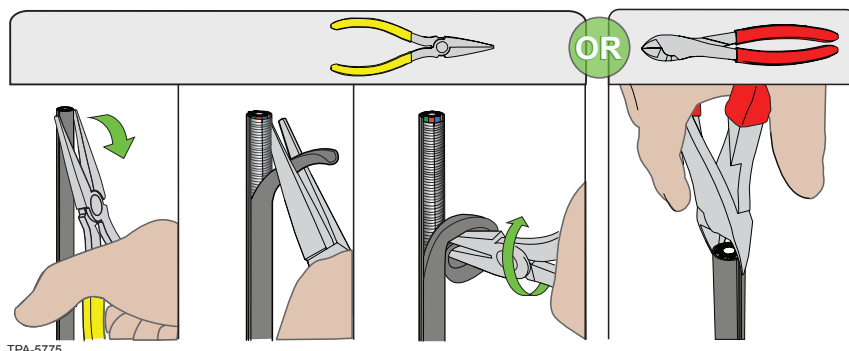

Figure 5
**NOTE:** Other options: Use needle-nose pliers or side-cutters to start tear (Figure 5).
**Step 6:** With your gloved fingers (Figure 6A) or needle-nose pliers (Figure 6B), remove the split pieces of outer jacket at the end of the cable (Figure 5). Continue to remove the jacket by pulling both sides to ring cut.